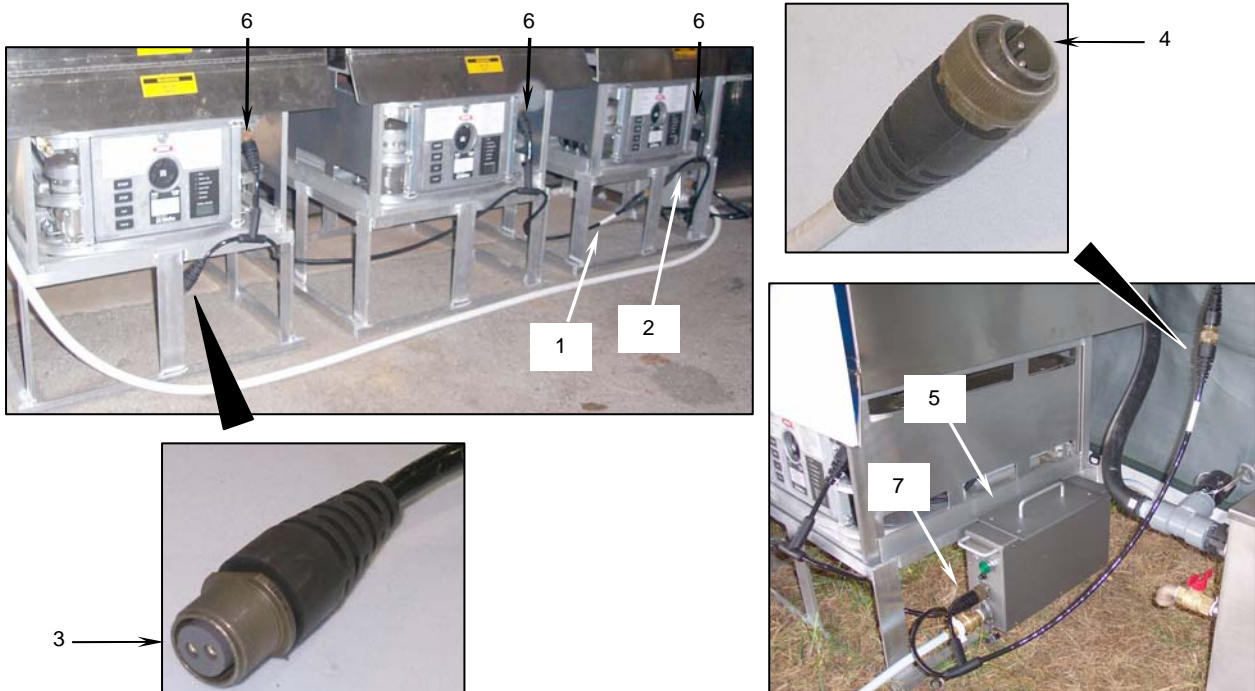

Figure 19. MBU Power Cable Assembly Installation.
- a. Plug one 2-branch MBU power cable (**Figure 19, Item 1**) into the end of a second 2-branch MBU power cable (**Figure 19, Item 2**).
- b. Run the MBU power cable assembly (**Figure 19, Item 1**) and (**Figure 19, Item 2**), with the female connector (**Figure 19, Item 3**) at the left end of the sinks and the male connector (**Figure 19, Item 4**) at the right end of the sinks, past the sink fill pump assembly (**Figure 19, Item 5**) and underneath the burner racks.
- c. Following all precautions and instructions in TM 10-7310-281-13&P (MBU), connect the MBU power cable assembly (**Figure 19, Item 1**) and (**Figure 19, Item 2**) to the MBUs (**Figure 19, Item 6**) and the sink fill pump assembly power connector (**Figure 19, Item 7**).